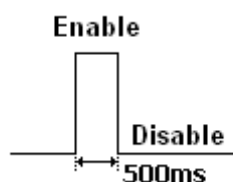
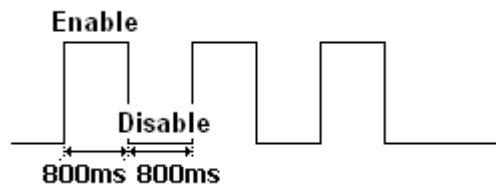

Figure 3: Wave Shape 2
Figure 4: Wave Shape 3
- ✧ <Duration>: Please refer to **Figure 2**, **Figure 3** and **Figure 4**. Unit: 100ms.
- ✧ <Toggle Times>: Please refer to **Figure 2**, **Figure 3** and **Figure 4**.